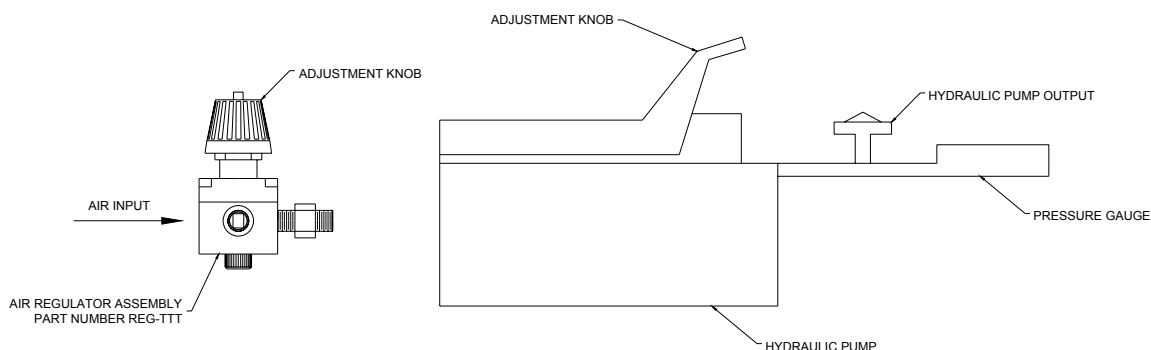

FIGURE 3. Air Regulator Assembly And Hydraulic Pump
1. Connect the Air Regulator assembly to the air input connection on the Hydraulic Pump, refer to Figure 3 below.